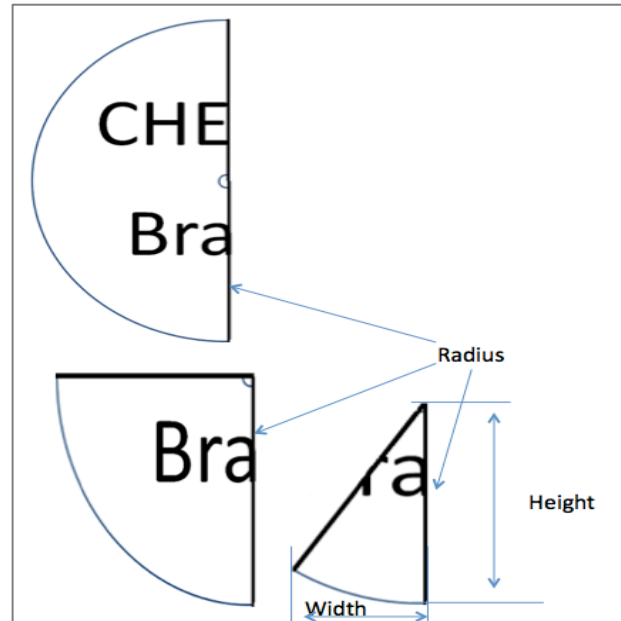

Figure 4—97. Diagram of cheese wheel (b/w).
**NOTE:** For irregular wedge cuts the largest straight edge is always the radius; as shown below in the lower left corner of the graphics on this page (Figure 4—97).